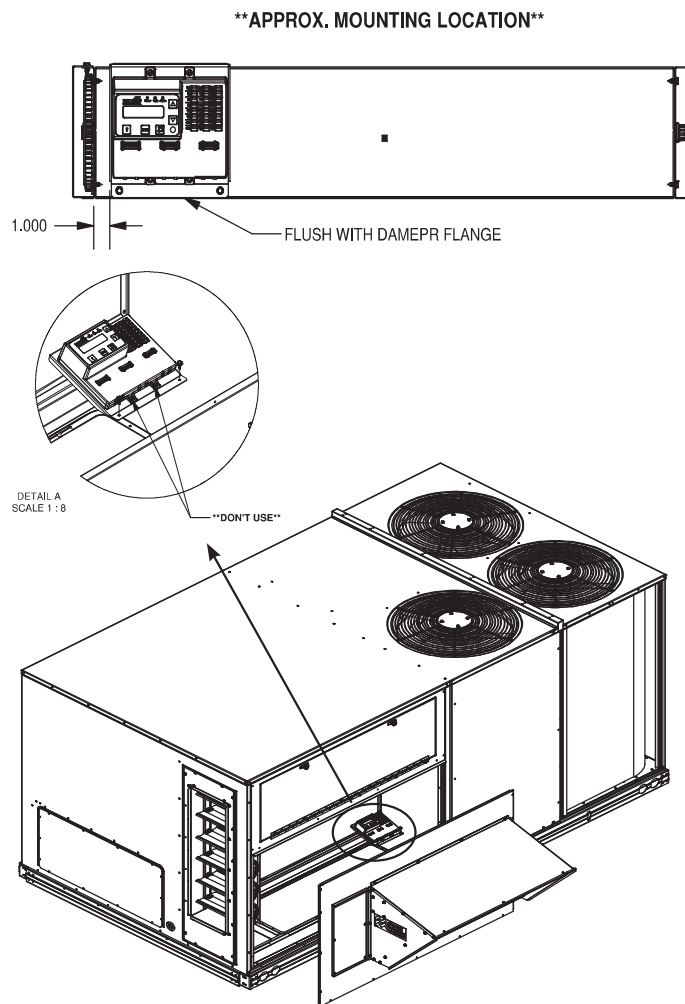

Fig. 15 - RA Approx. Mounting Location of Belimo ZIP Control
3. Locate and install the Belimo ZIP and Mounting Bracket per **Fig. 15**.
4. Lift the Economizer Assembly and slide into the RTU RA Cavity opening - See **Fig. 15**.